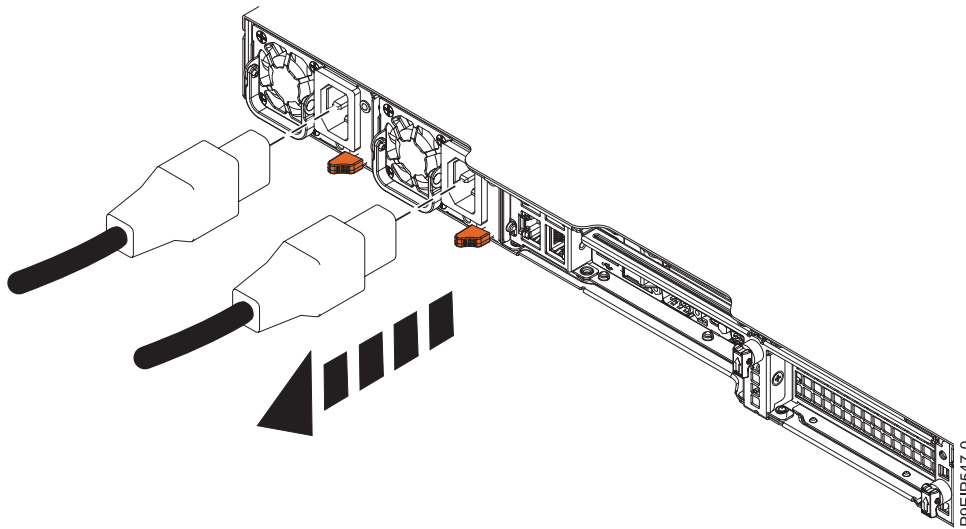

Figure 74. Removing the power cords from the system
2. Label and disconnect the power cords from the system unit as shown in Figure 74.